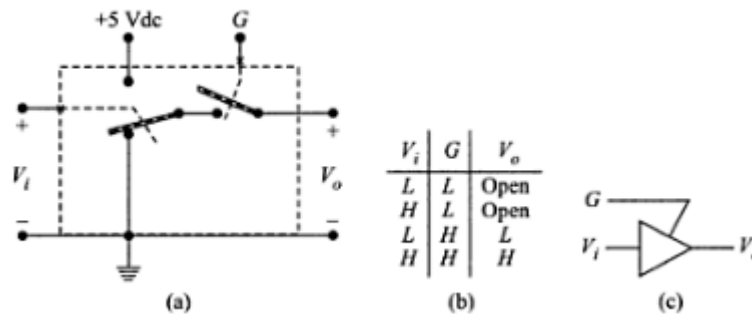

Figure 1.9: A tri-state buffer (a)Model (b)Truth table (c)Symbol
- In Figure: 1.9, when G =LOW, this switch is open and the output is disconnected from the buffer. When G =HIGH, the switch is closed and the output follows the input.
- The control signal G connects the buffer to the load or disconnects buffer from load (Figure: 1.9).